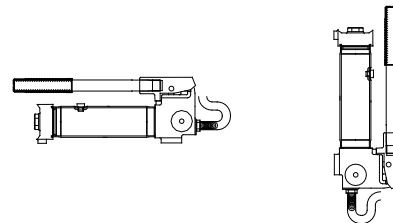

Figure 9 - Horizontal and Vertical Position
3. Pump may be used in horizontal and vertical position as illustrated in Figure 9.